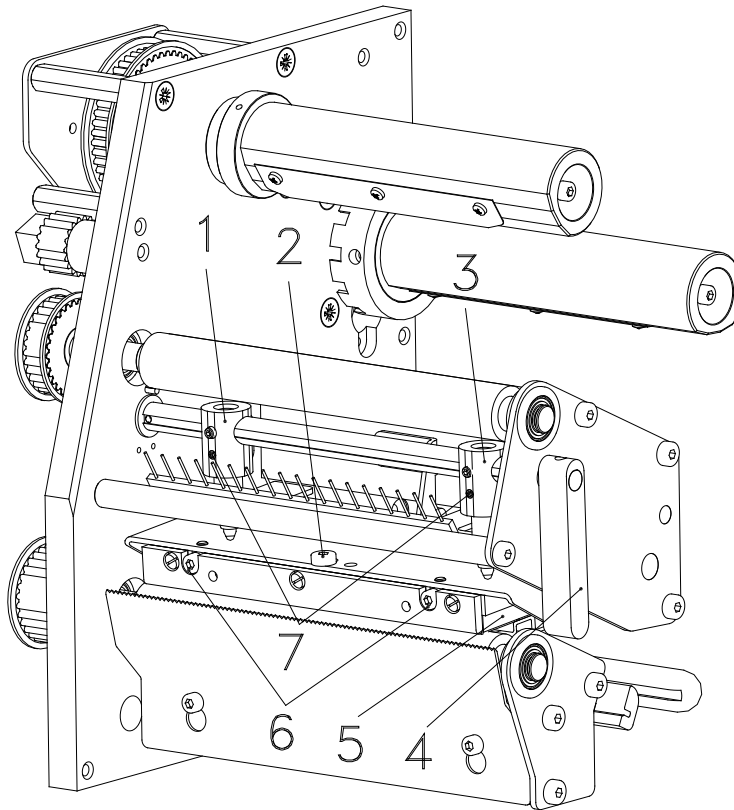

Figure 16
1. Loosen the fixing screw (2, Figure 16) with a hexagon key by approx. ¼ rotations.
2. Adjust the parallelism with the adjusting screws (6, Figure 16).
4. Tighten again the fixing screw (2, Figure 16).
6. Turn pressure screws (7, Figure 16) to change the pressure of printhead.
8. The printhead is pushed on via two plungers (1+3, Figure 16). The location of the right plunger must be set to the width of the label medium used so as to:
9. Turn lever (4, Figure 16) clockwise to lock the printhead.
10. Loosen the screw (7, Figure 16) by approx. ¼ rotations.
11. Position right plunger (3 Figure 16) above the outer label edge.
12. Tighten again the screw (7, Figure 16).